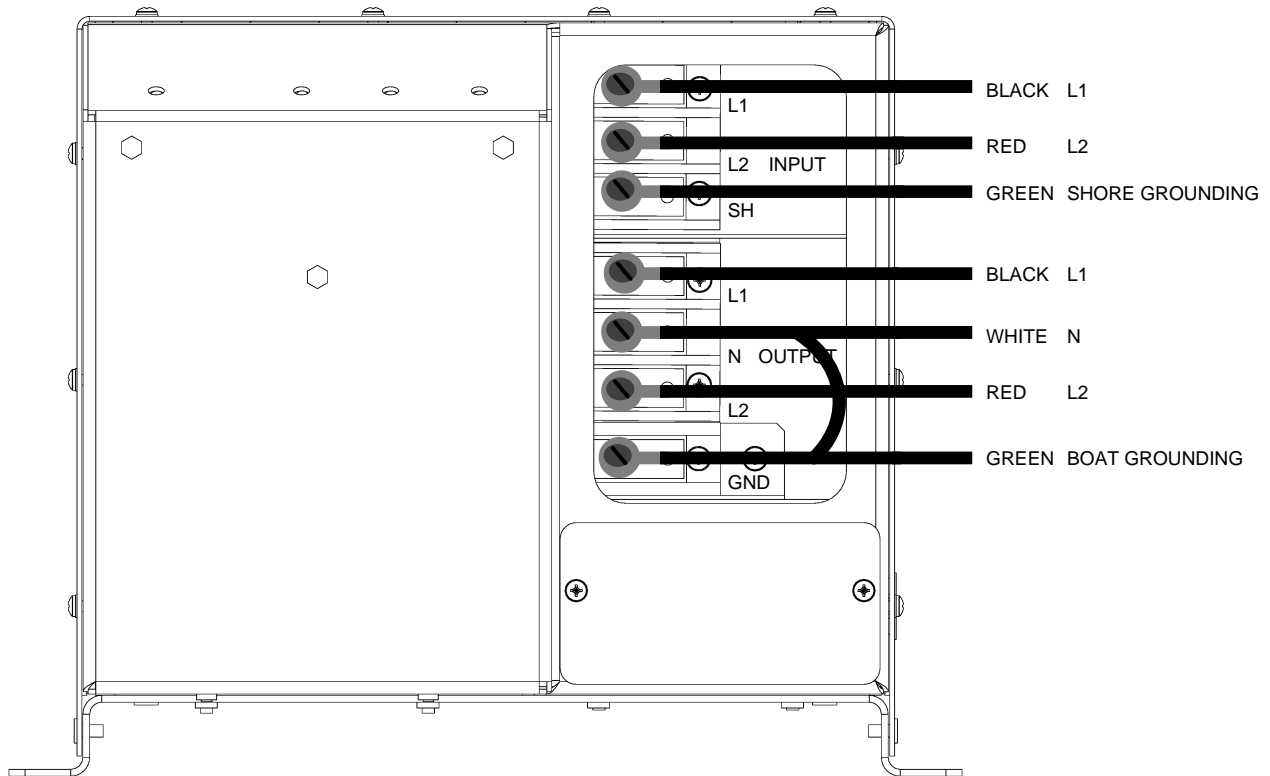
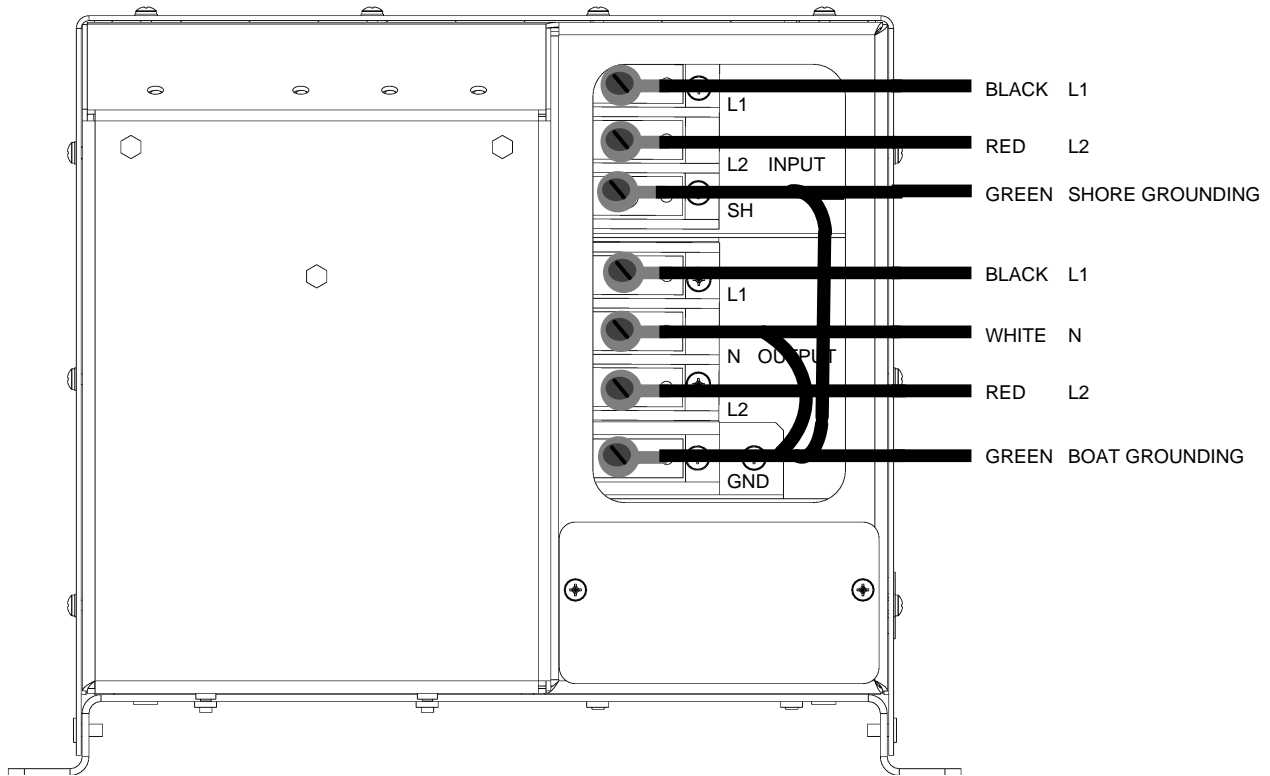
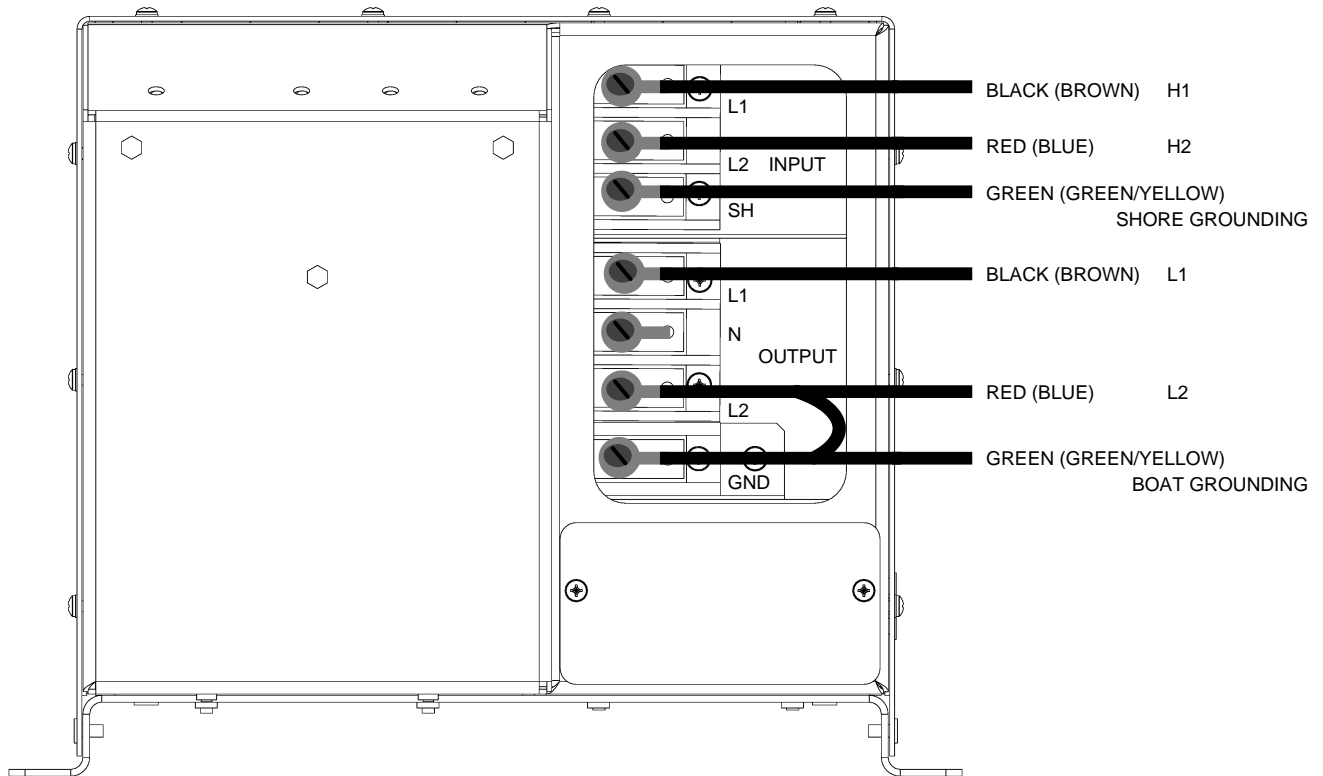

Figure 4. Typical Wiring as an Isolation Transformer - Method 1 (see Figure 1 for Electrical Diagram)
Figure 5. Typical Wiring as a Polarization Transformer - Method 2 (see Figure 2 for Electrical Diagram)
Figure 6. Typical Wiring as European 3-Wire, Single Phase 230
8.	Connect all wiring as shown in Figure 4, Figure 5, or Figure 6 based on the chosen wiring method.